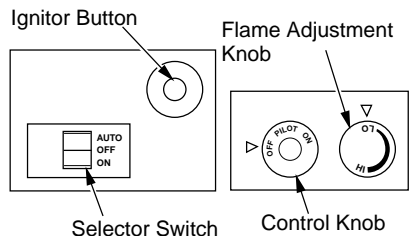

Figure 28 - Control Knob and Ignitor Button Location (Shown as Supplied, No Control Options)
5. Wait five (5) minutes to clear out any gas. Then smell for gas, including near the floor. If you smell gas, **STOP!** Follow "B" in the safety information, column 1. If you don't smell gas, go to the next step.
6. Press in and turn control knob counter-clockwise  to the PILOT position. Press in control knob for five (5) seconds (see Figure 28).